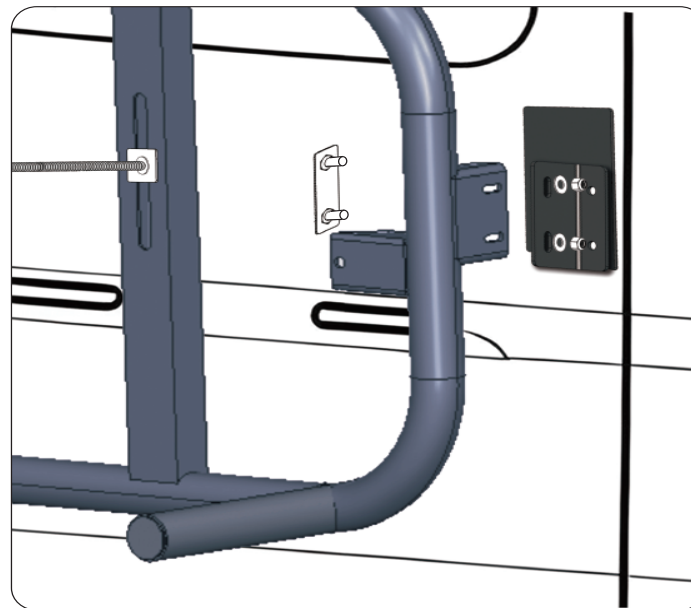

FIG9
3.2 Thread the Double Bolt Plate through the Drill Through Bracket and the two holes on the Tire Carrier/ Ladder Rack. Then using two M8 nuts and washers, lightly tighten to aid the alignment (**FIG 9**).